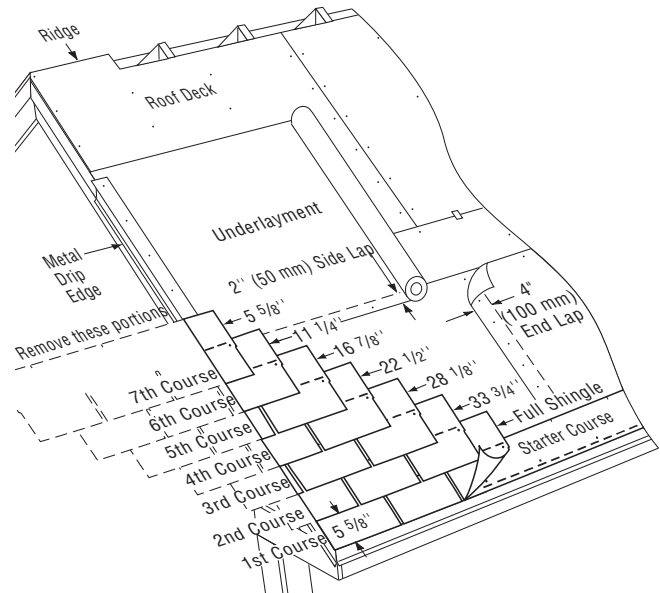

Figure 10-14: Applying the first 7 courses on a standard slope.
1ST COURSE: Apply a full shingle at the lower left corner of the roof. Make tabs lie flush with the edges of the starter course. In this way, sealant on the starter strip will adhere to the first-course tabs and help keep them from lifting in high winds (*Figure 10-14*).
1. Cut 5⁵/₈" off the left side of a shingle and install this 33³/₄" piece over and above the first-course shingle, in line with the left edge of the starter course (*Figure 10-14*).
2. Cut 11¹/₄" off the first shingle of the third course, 16⁷/₈" off the first shingle of the fourth course, 22¹/₂" off the first shingle on the fifth course, 28¹/₈" off the first shingle of the sixth course, and 33³/₄" off the first shingle of the seventh course. Apply each with its left edge in line with the previous course (*Figure 10-14*).